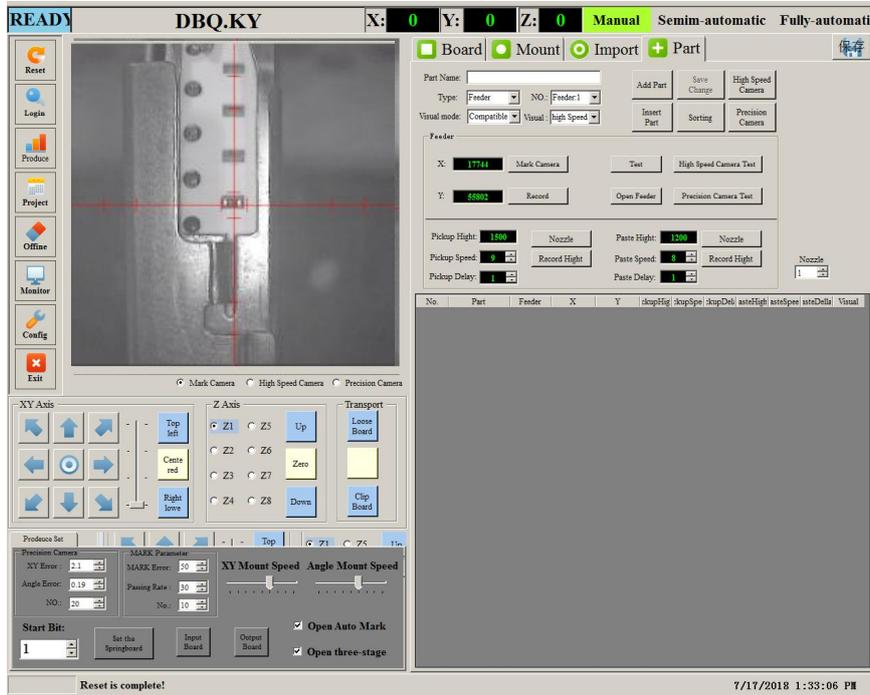

Figure 5-6-2
① Click “New Part” button, then into components setting interface, shown as Figure 5-6-2: Items need to set:
② After inputting the part's name, choosing material's type, NO and visual, click "MARK camera", Mark camera will move close to selected material, shown as Figure 5-6-2: